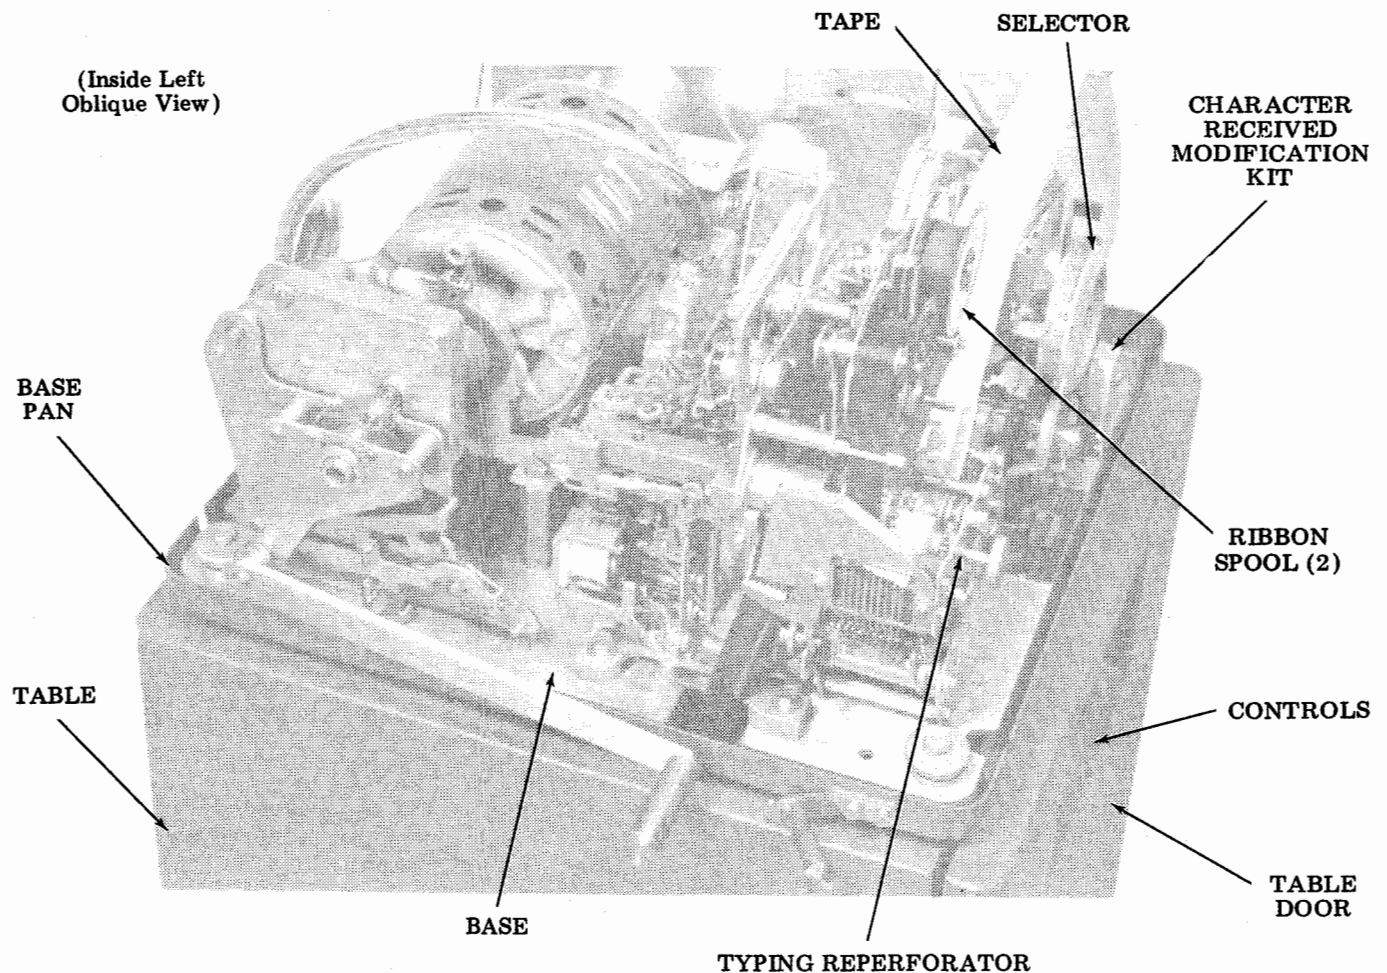

Figure 3 - 37 ROTR With Cover Open to Show Components and Base
2.06 The base provides resilient shock mountings for the typing reperforator, motor unit, intermediate drive assembly, and tape winder (Figure 3). Mounting facilities allow modifications to the typing reperforator. Wiring methods permit easy component removal.
3.02 To indicate selector rotation for each character received, the character received mechanism has a set of contacts which close and open on every selector cycle (Figure 3). The closure of the contacts during the selector cycle verifies the selector rotation. An interchangeable character received modification kit (interchangeable option) provides a contact break instead of a contact make when a different type of detection circuit is incorporated into the set.